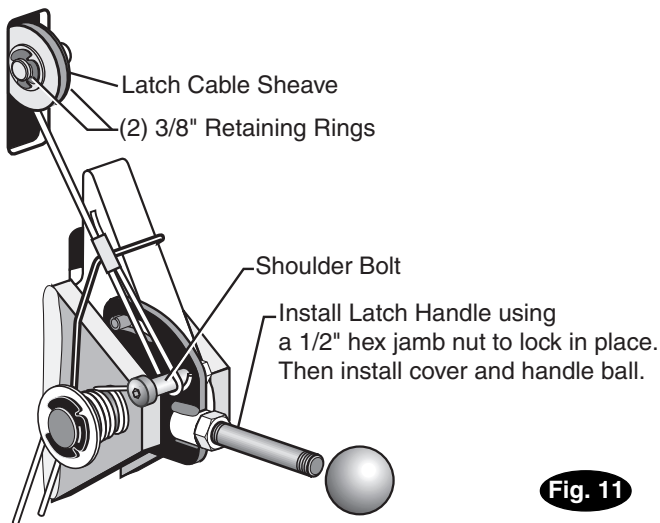
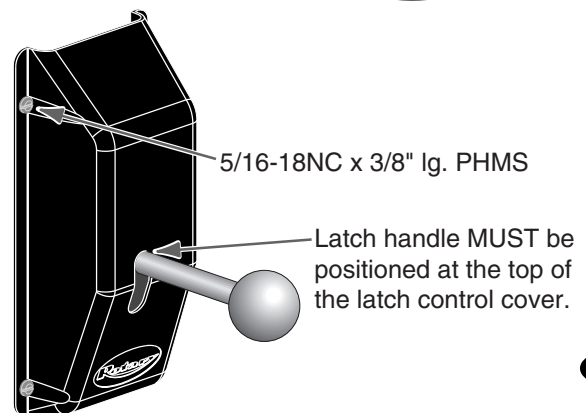

Fig. 11
Fig. 14
- Slip loop end of cable over end of shoulder screw on right side latch control plate, Fig. 11.
- B) Feed the other end of the cable through the latch cable sheave slot making sure that the cable is running under the bottom side of the latch cable sheave and inside the right column, Fig. 11.
G) At this point you **MUST** install the latch handle, jam nut, and right column latch cover Fig. 14 & Fig. 11. Install latch handle ball, Fig. 11.